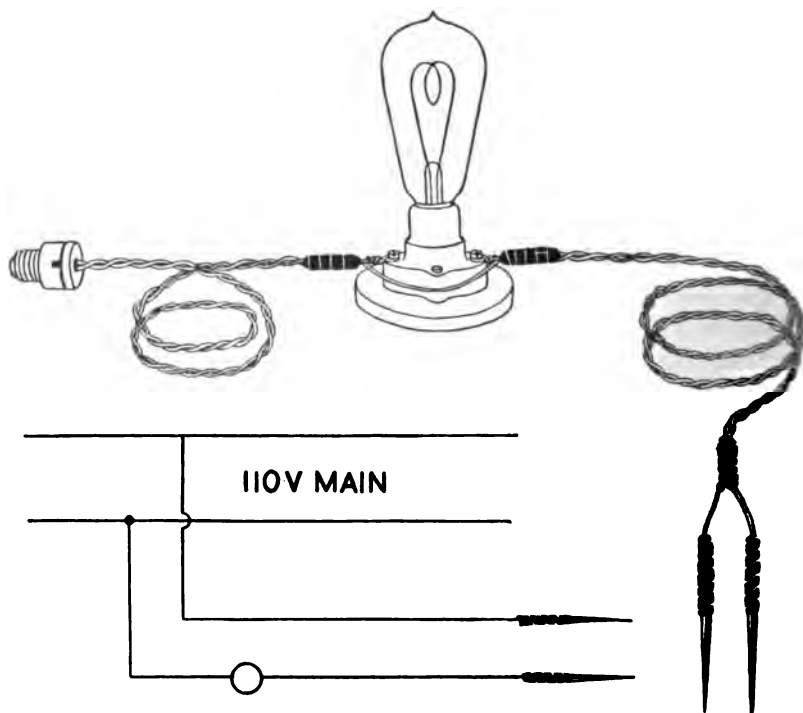

Fig. 212. Handy Testing Set
By referring back to the diagram, Fig. 208, and noting the particular function of the circuit breaker, an excellent example of the value of ability to trace wiring diagrams at a glance can be shown. Assume that when the button *M* of the combination switch, Fig. 212, is pulled out, the ignition fails to work. An examination of the diagram shows that when *M* is pulled out, its lower contact bridges
**Tracing for Grounds.** This can best be done by a process of elimination in which a knowledge of the wiring diagram will come handy. Referring again to Fig. 212, if the circuit breaker operates when switch *M* of the combination is pulled out, it will be apparent that the ground is located in either the main generator-battery circuit, or the ignition-coil circuit, as it will be seen that the lower contact member of the switch throws the former in the circuit and the upper contact member throws the latter in the same circuit with the circuit breaker. If pulling out *M* does not set the circuit breaker operating, but pulling out *T* does, this would indicate a ground in the circuit of the tail and cowl lights, while the operation of the circuit breaker on pulling out either *S* or *H*, would indicate that the ground was located in the wiring of either the side lights
oldered fast in place. The joints should be heavily wrapped with tape or covered with other insulating material to form a handle, as shown in the illustration, Fig. 212. As shown by the diagram forming part of this illustration, it will be seen that the lamp is in series with one of the points, but that when the circuit is closed by bringing the two points together, the lamp is in multiple with the main circuit. The lamp should be of the carbon-filament type owing to its greater durability. As a lamp of this type of 16 c-p. only consumes a little over 50 watts at 110 volts, or approximately half an ampere of current, there is no danger of injuring any of the apparatus on the automobile through its use. Sufficient cord should be allowed on either side of the lamp to permit of connecting it up with the outlet conveniently.